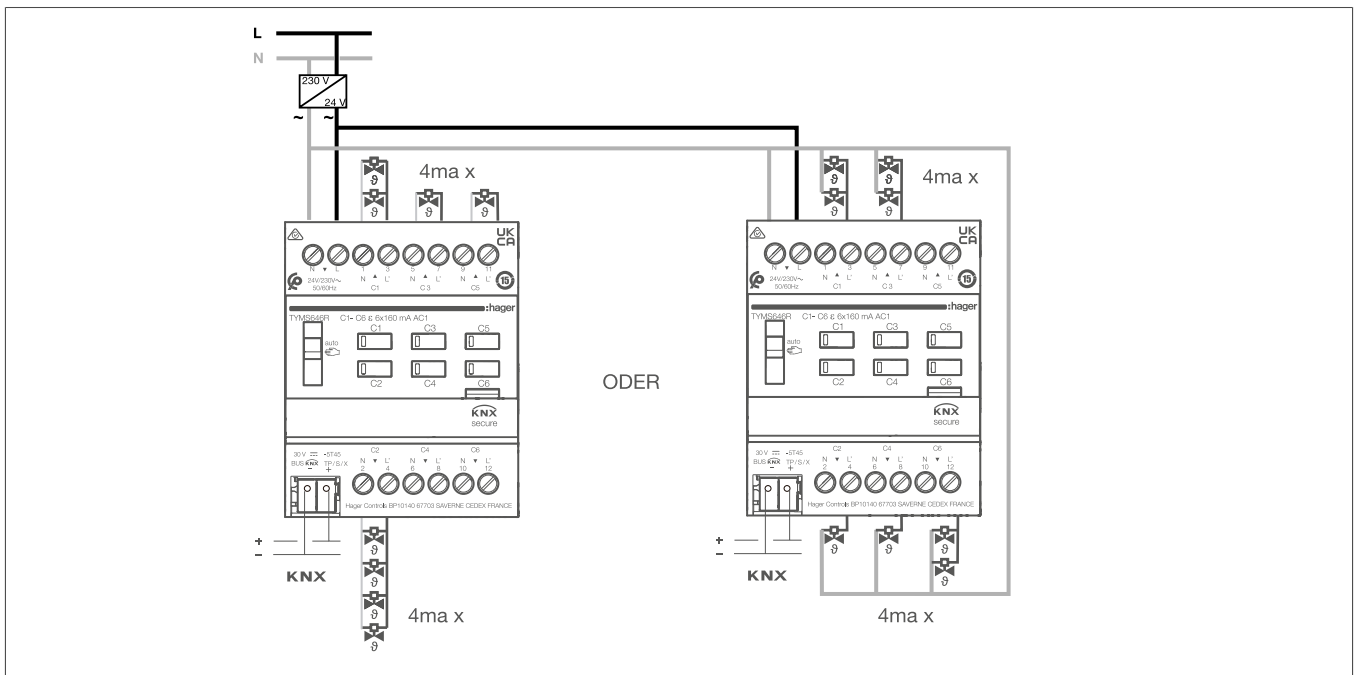

Fig. 8: Connection diagram for valve drives with 24 V~ power supply
- Connect the 24 V~ mains voltage according to the connection diagram (Fig. 8).
- Connect the valve drives according to the connection diagram (Fig. 8).